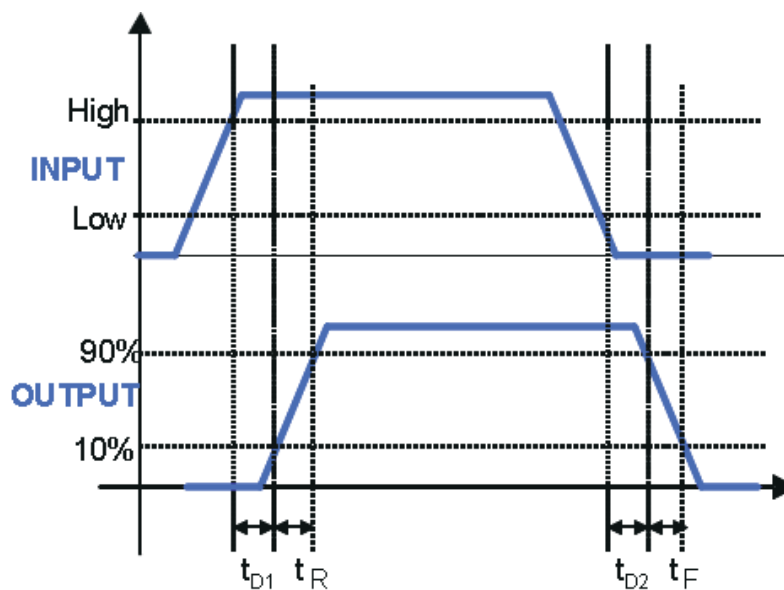

Figure 5-1. Timing Diagram (OUTH tied to OUTL)(Input = IN, Output = OUT (EN = VDD), or Input = EN, Output = OUT (IN = VDD))
(1) Ensured by design and tested during characterization. Not production tested.
(2) See Figure 5-1.
(3) Output pull-up resistance here is a DC measurement that measures resistance of PMOS structure only, not N-channel structure. The effective dynamic pull-up resistance is 3 x R_{OL}.